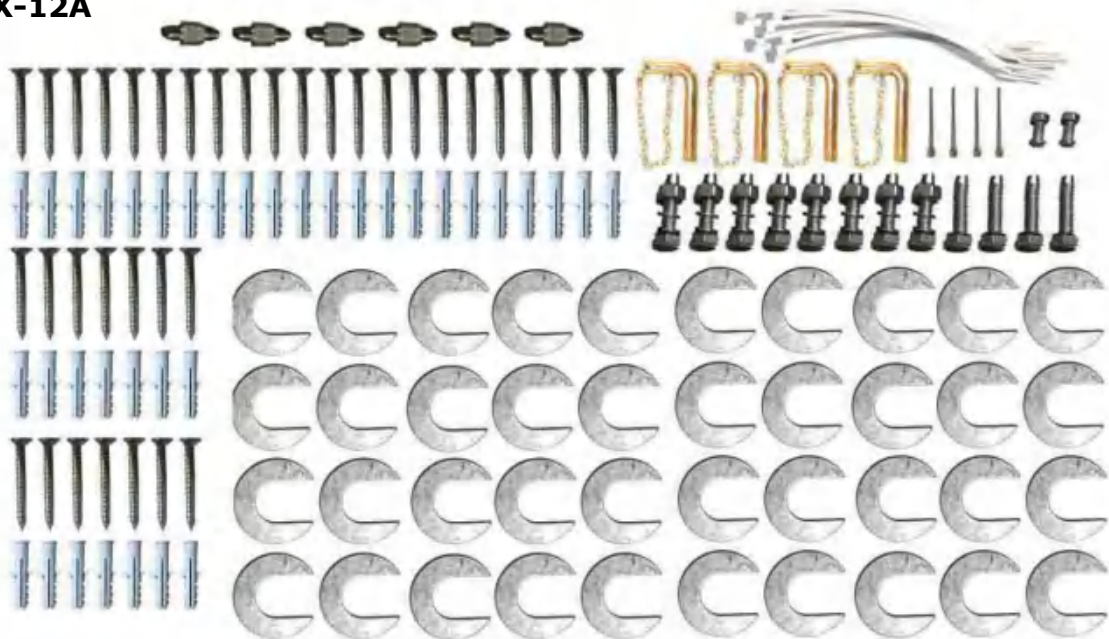
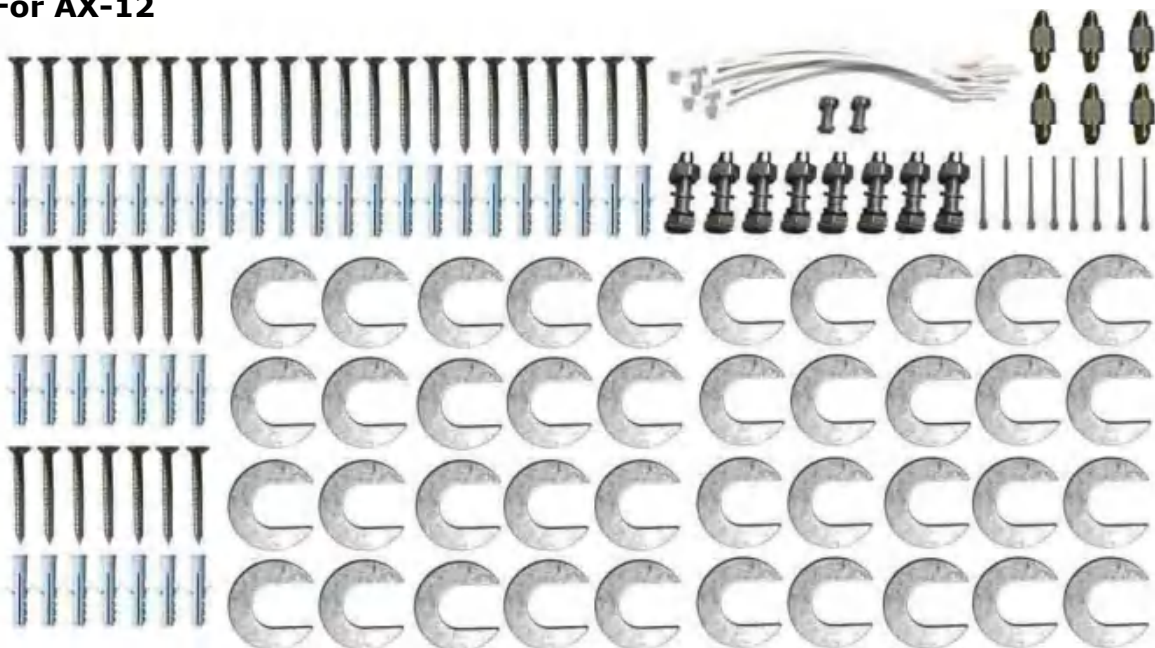

Fig.17
Fig. 18
4.1 Parts bag for on surface installation (See Fig.17, Fig.18)